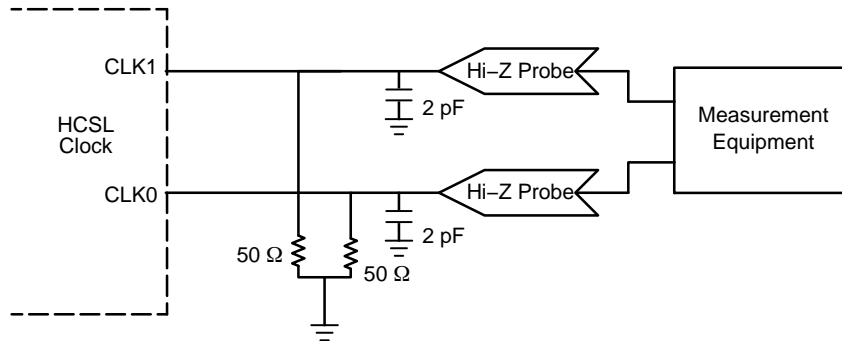

Figure 8. HCSL Parameter Measurement
6. Measurement taken with outputs terminated with $R_S = 0 \Omega$, $R_L = 50 \Omega$, with test load capacitance of 2 pF. See Figure 8. Guaranteed by characterization.